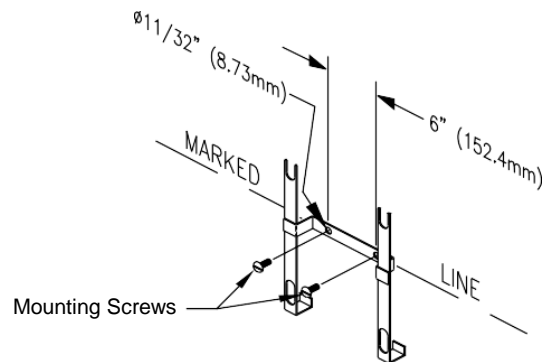
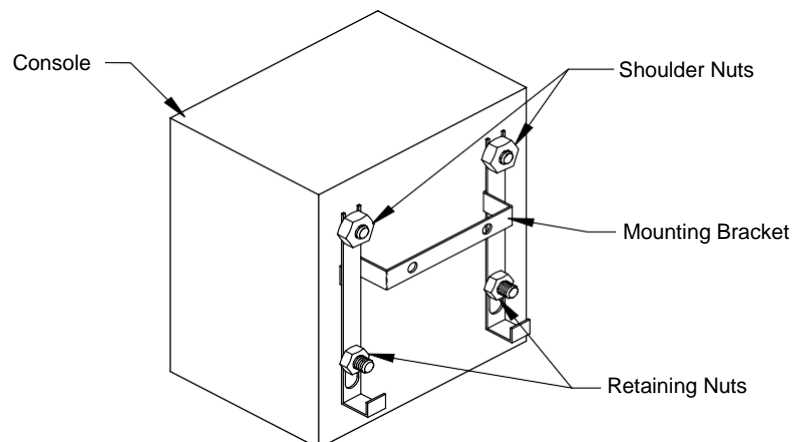

Figure 4 - Mounting Bracket
Figure 5 - Console and Mounting Bracket
3. Remove the mounting bracket from the rear of the AutoSwitch console by removing the retaining nuts at the bottom of the mounting bracket (Figure 5). Place the upper edge of the bracket cross-member on the horizontal line so that it is centered with the vertical line. Holding the bracket with the slotted extensions away from the wall, mark the location of the two mounting bolts (Figure 4).
4. Using appropriate hardware based on wall construction, anchor the mounting bracket to the wall (Figure 4).